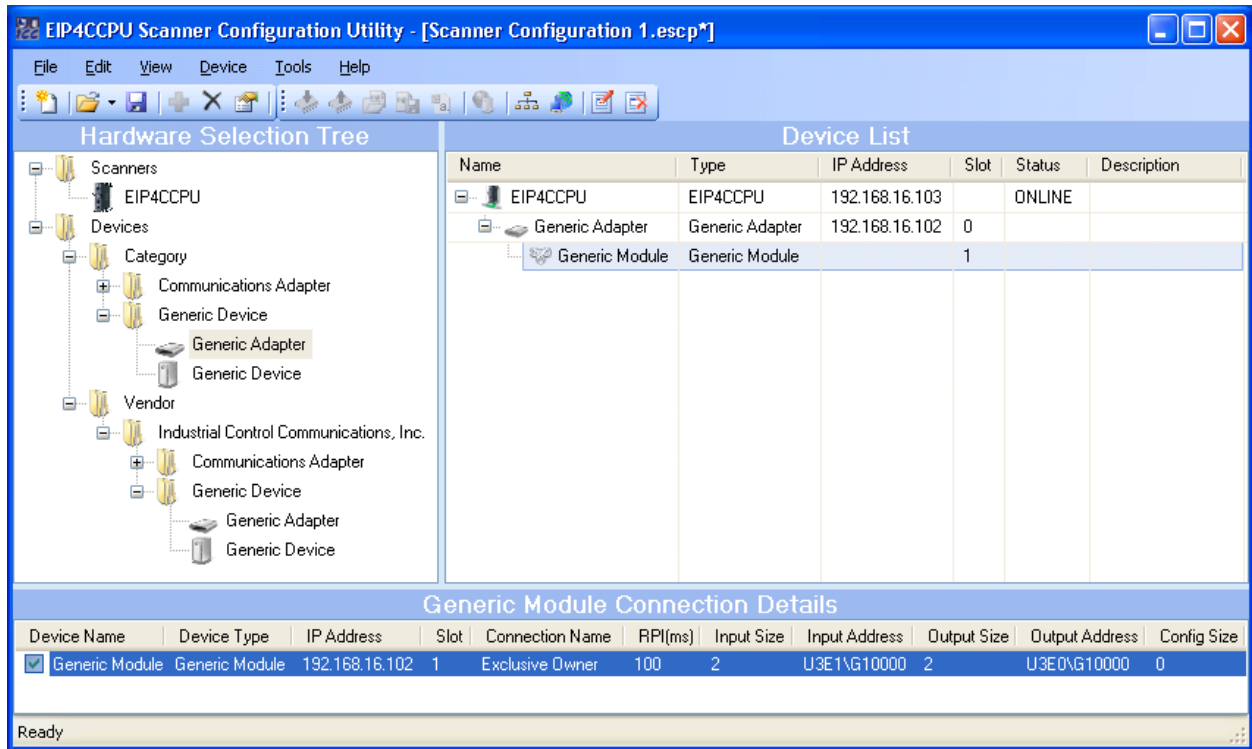

Figure 57: Added a Generic Device Connection
8. Click Accept. A Generic Adapter/Module connection has been successfully added (see Figure 57).